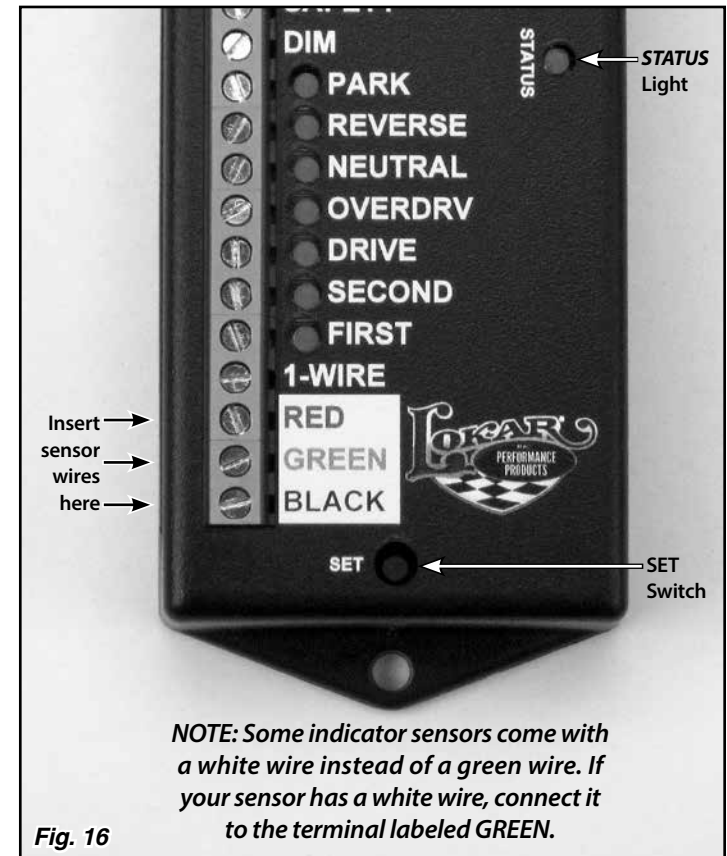

Fig. 16
The sensor has a 10 foot long cable attached to it. This cable contains three wires which connect to the decoder box: one red wire, one wire that can be either green or white, and one black wire. To connect the wires to the decoder box, use a small flat blade screwdriver to loosen the screw terminal. Strip 3/8" of the insulation off of each of the wires. Connect the red wire to the terminal marked RED. Connect the green or white wire to the terminal marked GREEN. Connect the black wire to the terminal marked BLACK. **Fig. 16**
Step 2: Press and hold the SET switch. **Fig. 16** Turn the ignition key on while holding the SET switch down. Then, release the SET switch.